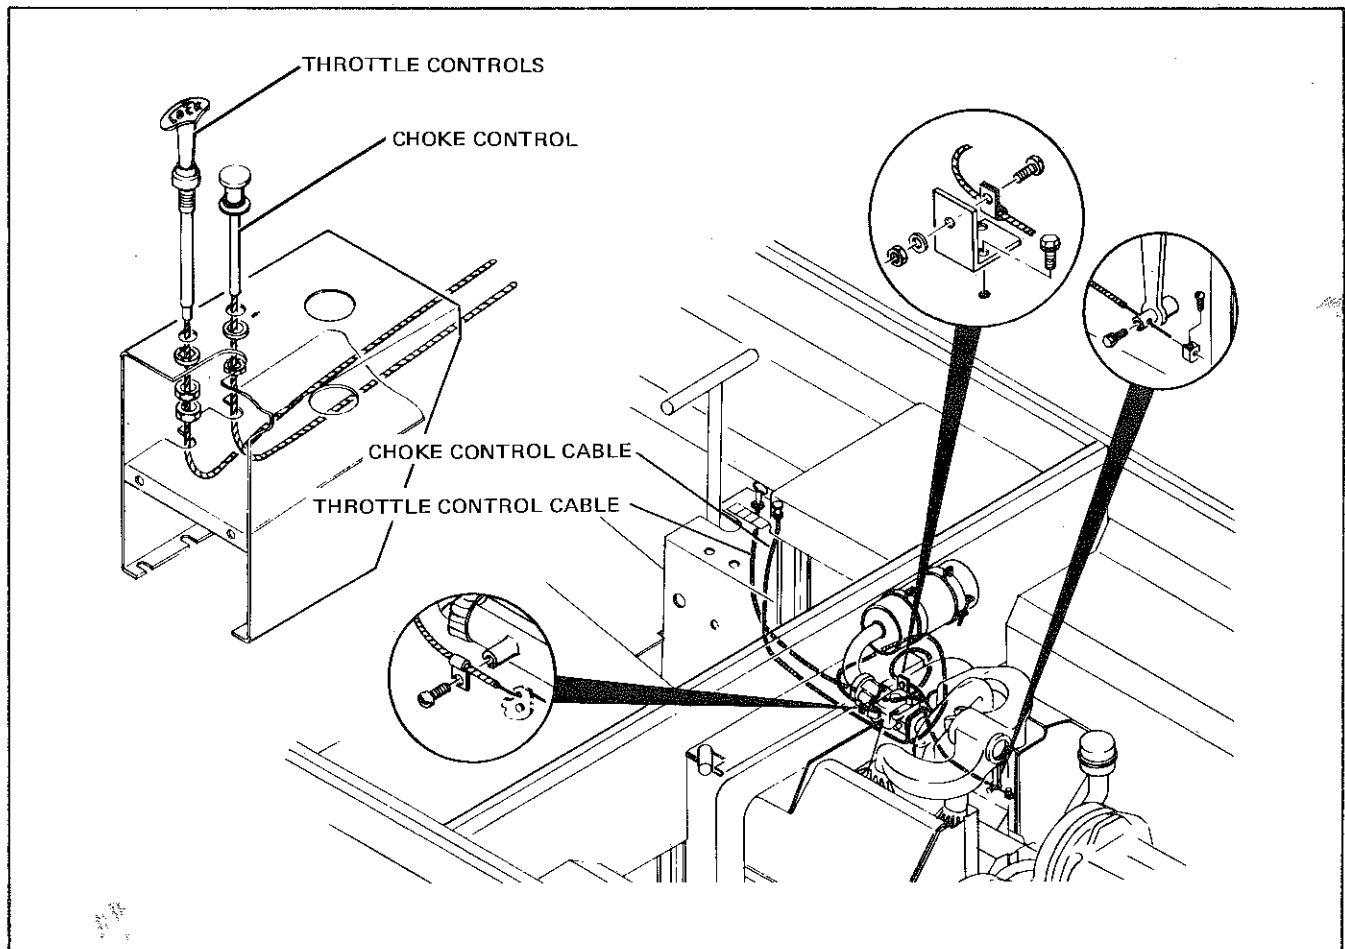

Figure IV-43 Throttle & Choke Controls
B. CHOKE CONTROL (figure IV-43)
C. THROTTLE CONTROL (figure IV-43).